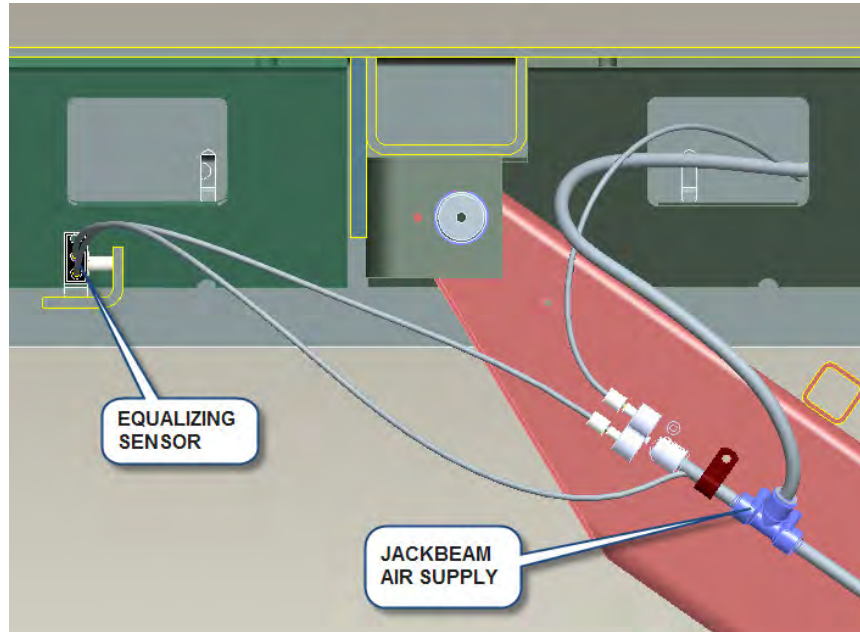

Figure 9a - Equalizing Pneumatic Switch. (View under LS Deck - Front)
1. The equalizing pneumatic switch and upper limit pneumatic switch on the left side scissor assembly are supplied by the 3/8" jackbeam air line (Figure 9a).